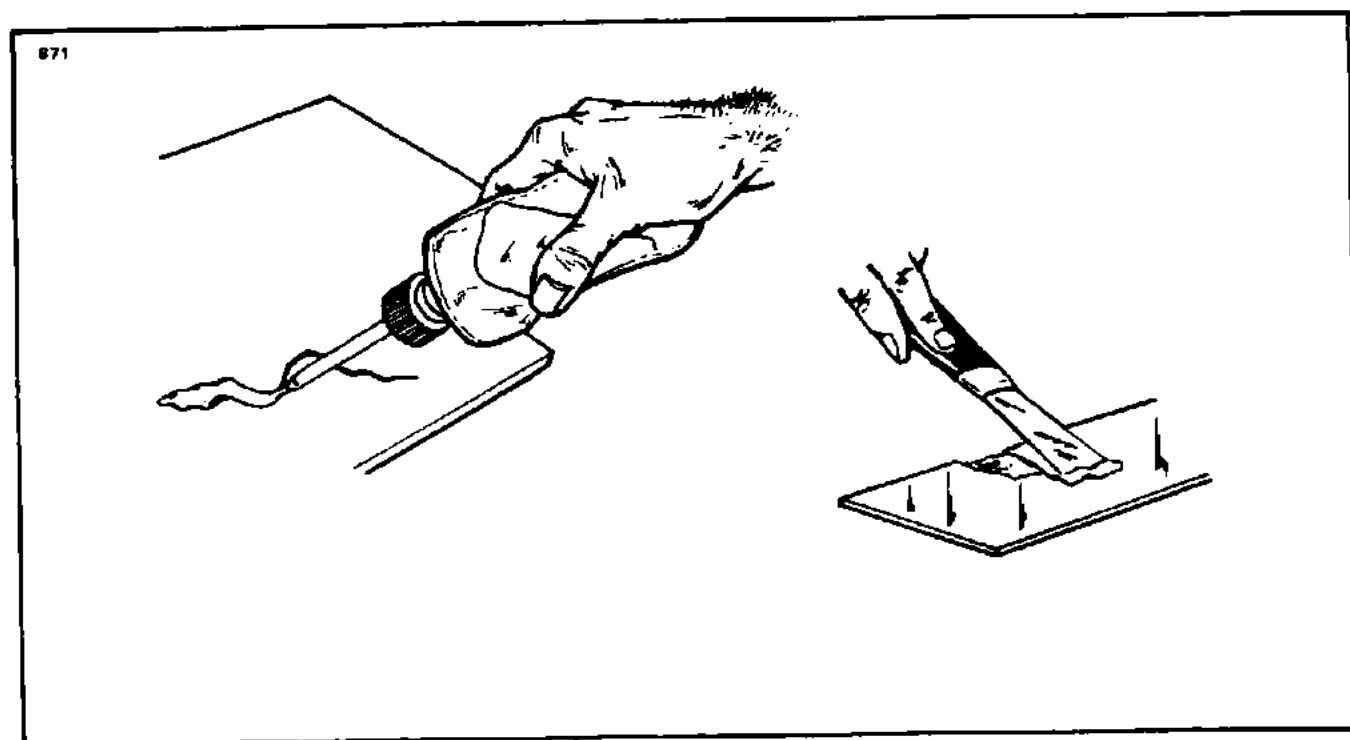

Figure 4-15. Deep Scratches, Shallow Nicks and Small Holes
- c. Deep Scratches, Shallow Nicks and Small Holes: (Less than 1 inch in diameter.) (Refer to Figure 4-15.)